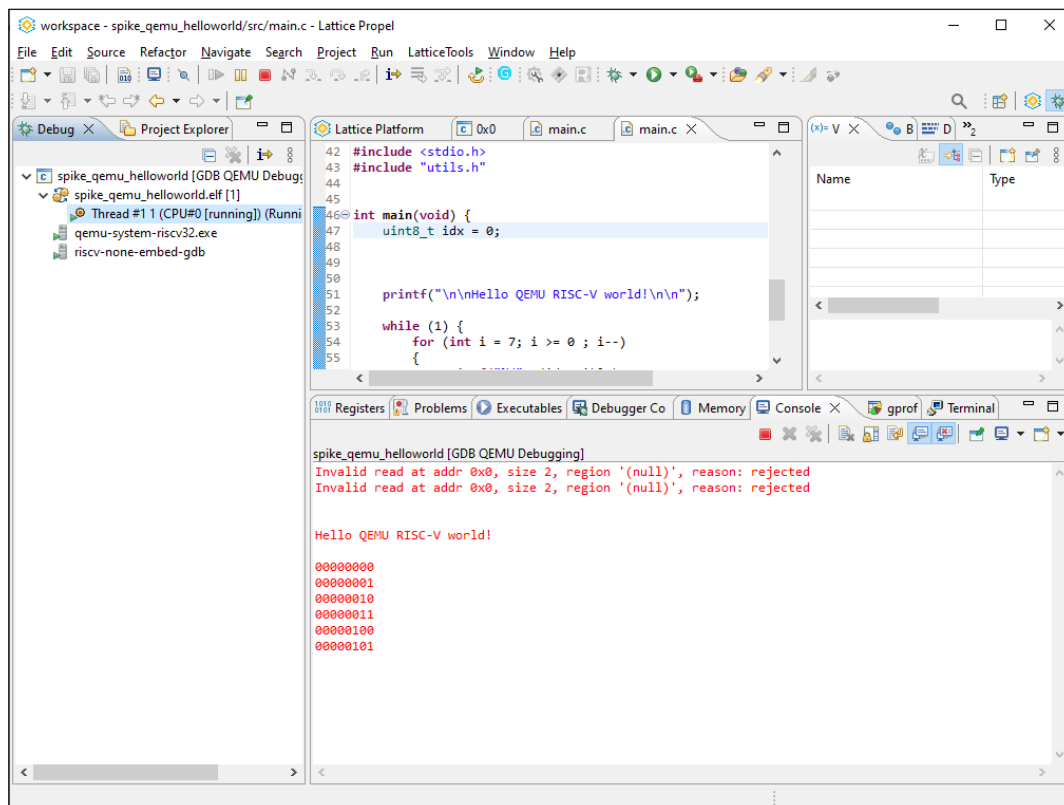

Figure 9.4. Running/Debugging Windows 2
5. Click the **Resume** icon  on the toolbar. The Console outputs running logs (Figure 9.4).